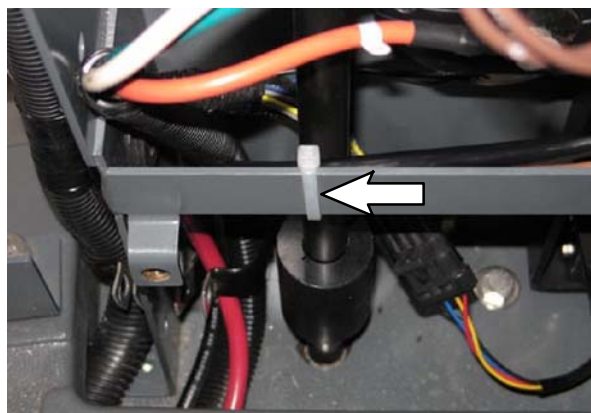

FIG. 51
30. Turn the steering wheel so the front wheel is again pointing straight to the front of the machine. (Fig. 51)